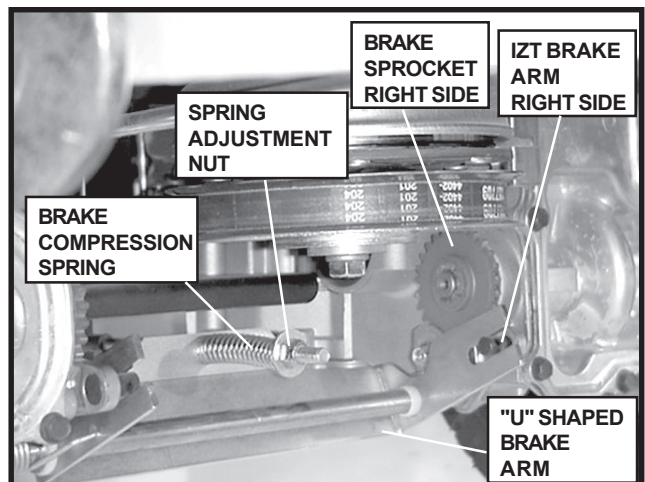

FIGURE 19
NOTE: Make sure the brake arm is engaged into brake sprocket on both sides. You can push the mower to make it engage into the sprocket. See Fig. 19.
- With the park brake in the on position, the compression spring should be 2" from the "U" shaped brake arm to the washer. See Fig. 19. If not, use two wrenches, one to hold the bolt and one to turn the nut to attain the 2".